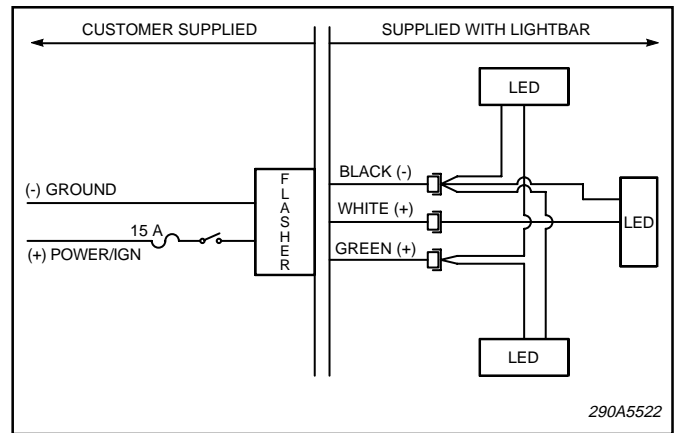

Figure 2.
- C. See figure 2. For proper light operation, the control cable must be properly connected to the user-supplied flasher using the electrical connections shown in table 1